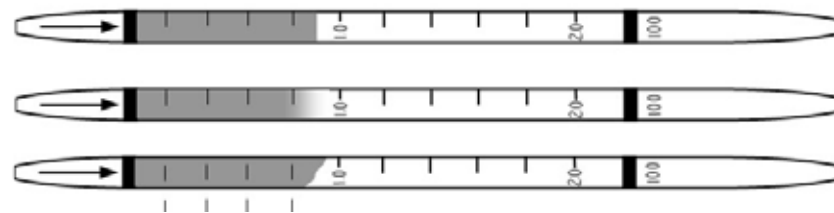

Figure 3-4. Reading of various types of endpoints after sampling.
2. The reading is taken as the furthest distance along the tube that the color change just becomes visible. If the leading edge is diagonal instead of perpendicular to the axis of the tube, use the average of the minimum and maximum values. The three tubes shown in Figure 3-4 are all read as 0.9.